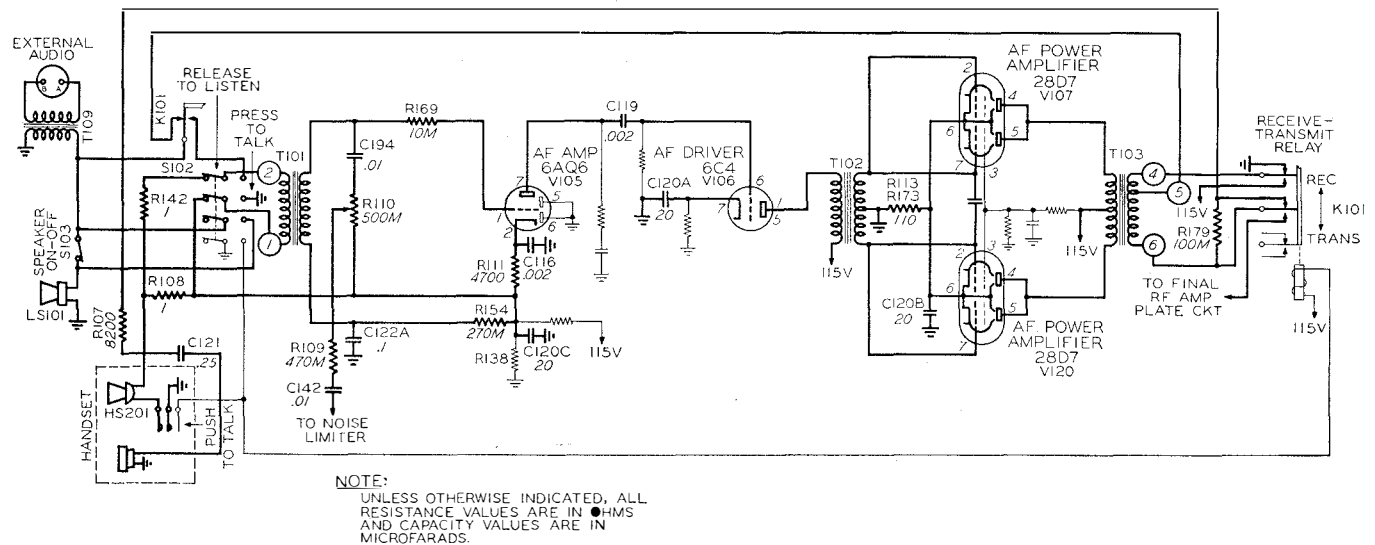

Figure 4-5—Audio Amplifier Circuits
(3) AUDIO AMPLIFIER CIRCUIT. (Refer to figure 4-5.)—The audio amplifier uses one Type 6AQ6, one Type 6C4 and two Type 28D7 tubes. The triode section of the Type 6AQ6 is used for low level amplifying, the diode plates being grounded. The Type 6C4 tube functions as a driver for the two Type 28D7 tubes that are used as audio power amplifiers. The audio amplifier circuit is used interchangeably to amplify the output of the second detector and to modulate the output of the RF power amplifier to the transmitter section. The PRESS TO TALK—RELEASE TO LISTEN toggle type switch, S102, when pressed downward, connects terminal number 1 of the audio input transformer, T101, to ground. The ungrounded side of the transducer is connected through a set of contacts on S102, in parallel with the SPEAKER ON-OFF switch, S103, to a movable contact on the receive-transmit relay, K101. Depressing the PRESS TO TALK - RELEASE TO LISTEN switch also causes the receive-transmit relay, K101, to close. The operation of relay K101 completes the transducer circuit to terminal number 2 of the input transformer, T101, and connects the secondary winding of the output transformer, T103, between the high voltage source and the transmitter RF power amplifier tube plate for the modulating of the RF power amplifier output. The closing of K101 also inserts R179 in series with the handset phone for monitoring the modulation and puts a blocking voltage on the cathode of the receiver squelch tube. The antenna relay, K104, also closes when the PRESS TO TALK - RELEASE TO LISTEN switch is depressed. The operation of this relay connects the antenna to the transmitter.